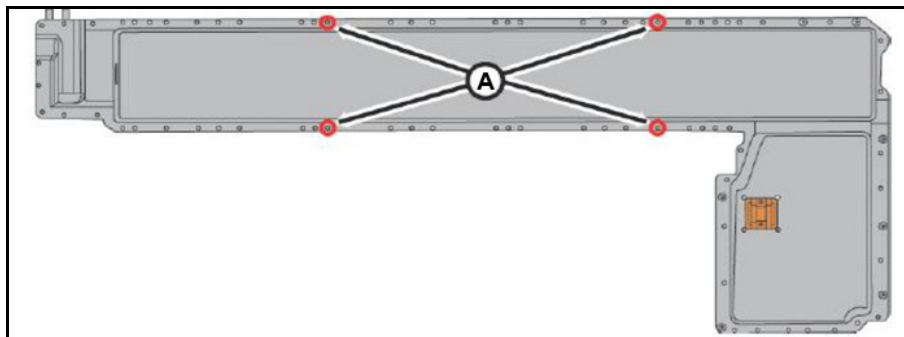

Figure 4A
4.1. Install the eye-bolts in the four locations (Figure 4A) on the HV Battery Pack.